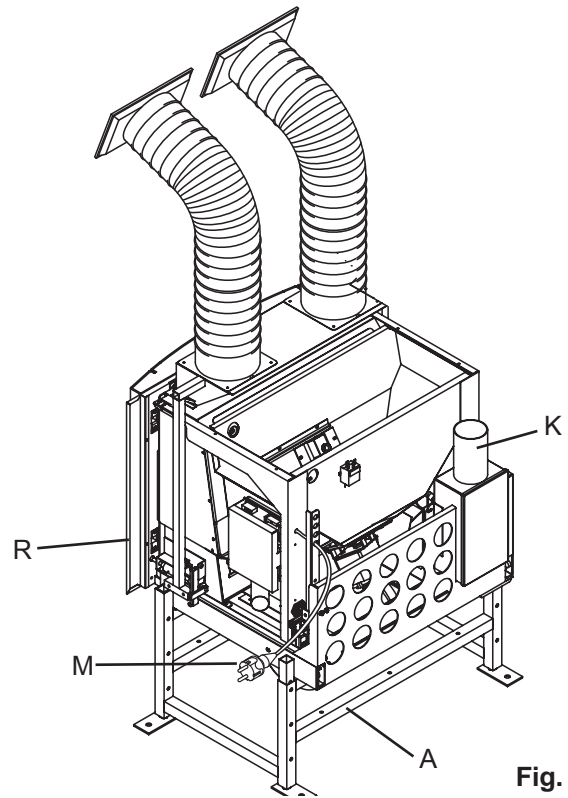
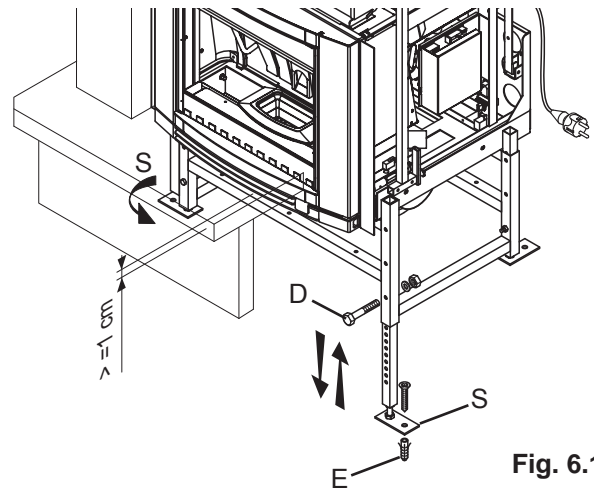
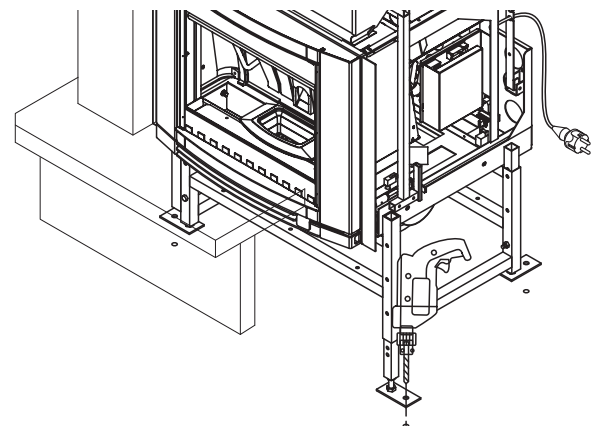

Fig. 6.1.1
Fig. 6.1.2
Fig. 6.1.3
The extraction frame is composed of (Fig. 6.1.1):
Installation (Fig. 6.1.1, Fig. 6.1.2, Fig. 6.1.3):
- 4) Make 4 holes Ø 8 to attach the frame to the ground (Fig. 6.1.3). Use the frame as a template.
- 5) Fasten the feet (S) of the base with sturdy steel expansion plugs Ø 8 mm (E);
- 6) Connect the discharge manifold (K) to the smoke outlet duct;
- 8) Provide for the incoming electrical line on the rear of the stove (M);